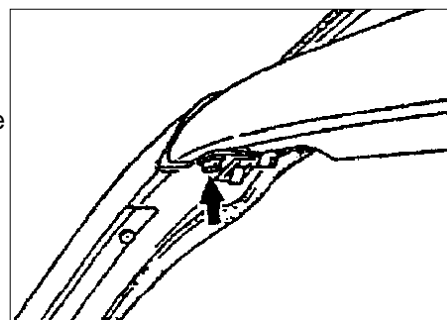

Figure 6
- Remove the outside bolt for the roof module on the windshield frame (arrow figure 6) and the first bolt for the glass roof guide rail behind the wind deflector.